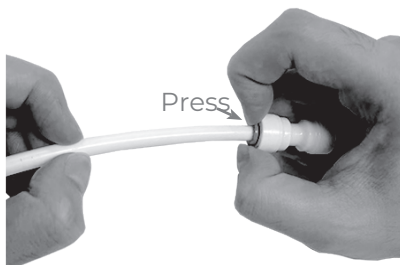

Figure 4
- Use your thumb and index finger to press down the lock sleeve. Use your other hand to pull out the tube from the fitting (Figure 4).